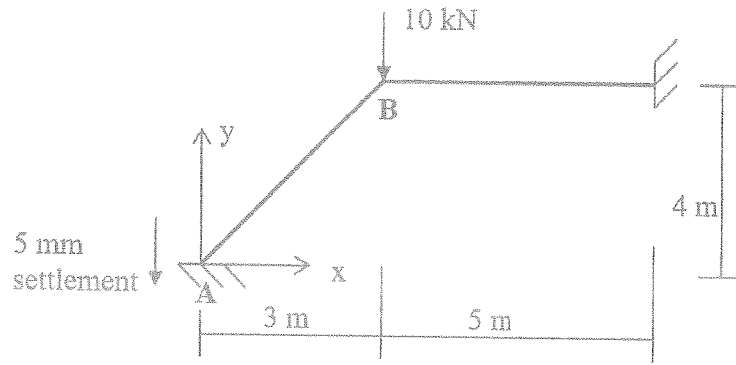

Fig. Q2
Q2. An idealised two-dimensional frame structure is shown in Fig. Q2. Axial deformations in the members are negligible. The support A has settled by 5mm in vertically downward and a point load of 10 kN has been applied at B as shown in Fig. Q2.
a) Matrix stiffness method is governed by degree of kinetic indeterminacy (KI°). Explain briefly what is kinetic indeterminacy and determine KI° for the structure given in Fig. Q2.